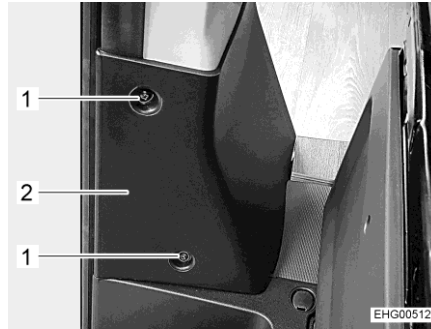
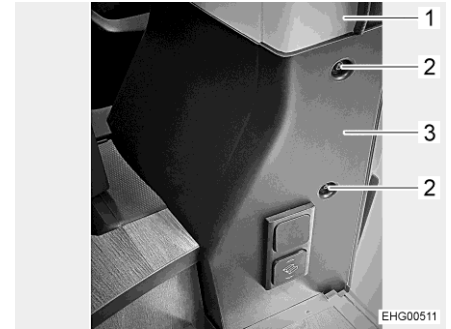

Fig. 97 Cover (seen from driver's cabin door)
Fig. 98 Cover (seen from sliding door)
- Unscrew 2 screws (Fig. 97,1) and 2 screws (Fig. 98,2) and remove cover (Fig. 97,2 and Fig. 98,3) from B column (Fig. 98,1).